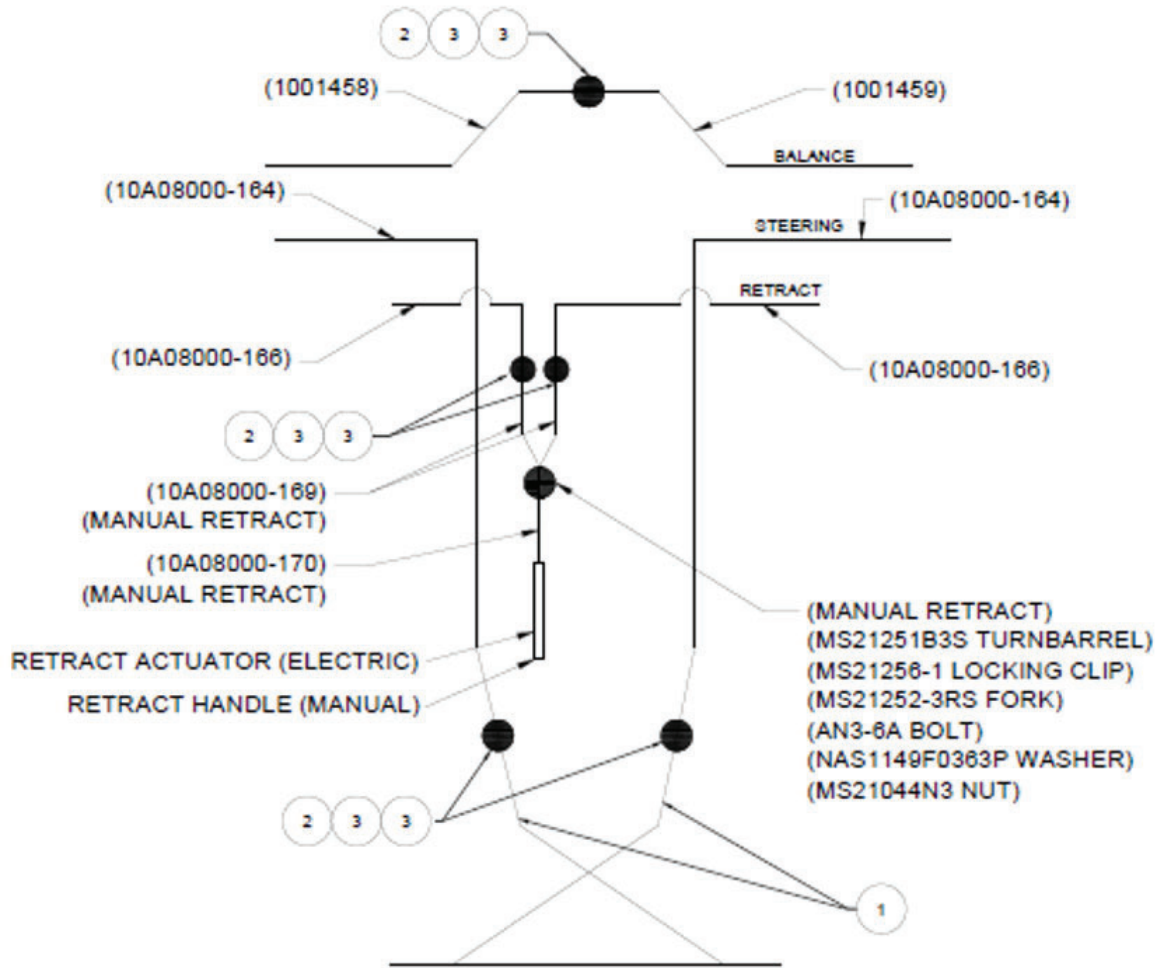

FIGURE 13: 2-WATER RUDDER CABLE SCHEMATIC
- c. Figure 13 is a cable routing schematic for the existing 2-water rudder installation where Item 2 is MS21251B3S (turnbarrel), and Item 3 is MS21256-1 (turnbarrel locking clip).